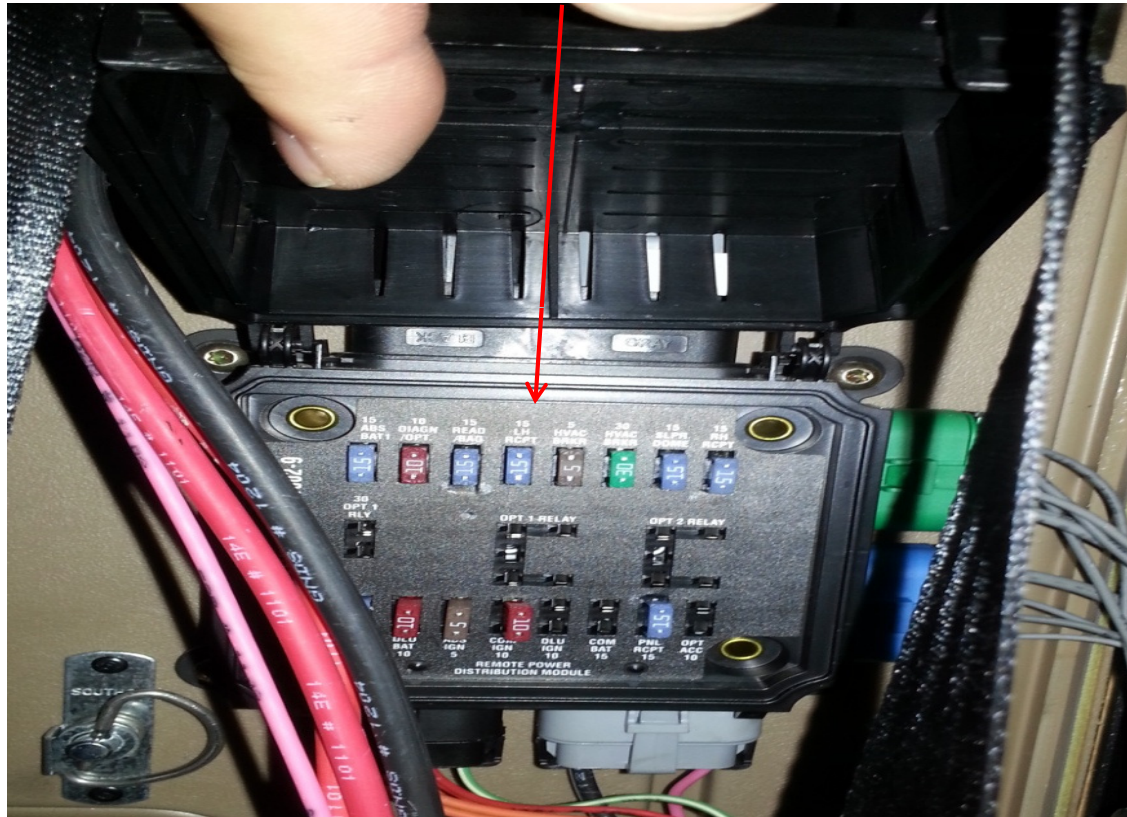

Figure 3
7. Insert fuses in panel for power “10 AMP”, and ignition “5 AMP” fuses refer to “Figure 3”.